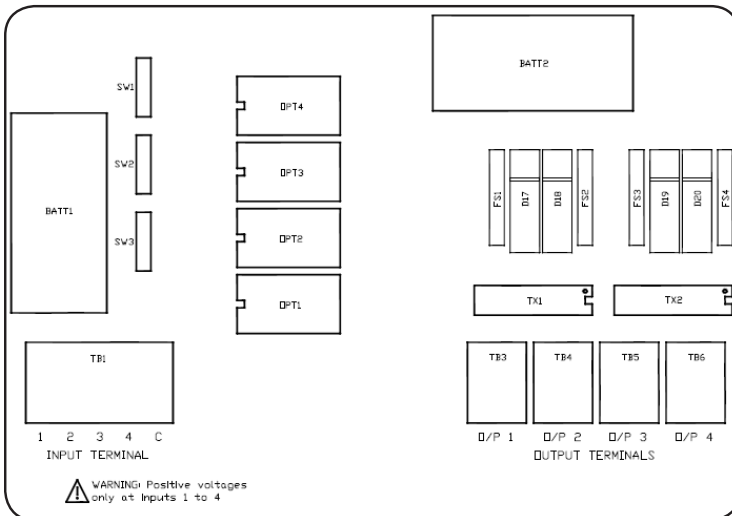

Figure 2 –Electrical Connectivity
The unit is comprised of four (4) independent circuits that transform high impedance pulses, or volt-free contact closures, into isolated volt free contact closures. One input can be connected to up to four (4) isolated circuit outputs or a combination of them, configurable by the user by means of internal switches SW1, SW2 and SW3. Figure 2 refers to location.
Using either or both of the remaining two cable glands, use multi-way cable to wire to the output (O/P) terminal blocks. Take the O/P signal pulses to the customers Logger/Energy Management System. Each Terminal block O/P 1 to 4 is an open collector type output. One I/P can be connected to up to four (4) isolated circuit O/P or a combination of them, configurable by the customer by means of internal switches SW1, SW2 and SW3. Figures 2 and 3 refer.
Check that incoming signals are connected correctly and switch positions are set to activate the desired outputs. Figures 2 and 3. Replace the cover.